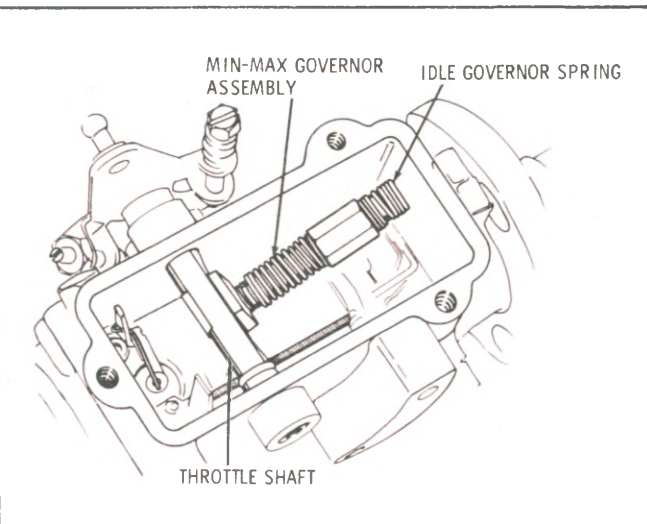

Fig. 3-10 Min-Max Governor Removal.
5. Remove three (3) governor cover screws and governor cover (top of pump).
7. Remove min/max governor assembly. (Figure 3-10).